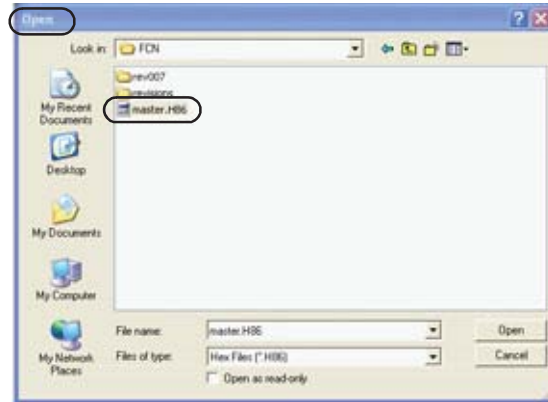

FIGURE 31
- Select and press **Load Hex** button in lower left corner (see Figure 30). A screen will drop down called **Open** as shown in Figure 31.
- Locate and click **Master.H86** icon to select file (see Figure 31). The hex file will now download the selected controller. The controls interface main screen will display **Process Complete/ Timed Out** when files are fully loaded and file closes automatically.